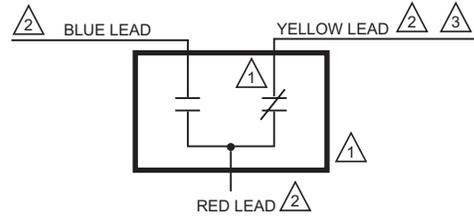

Fig. 9. Auxiliary switch schematic.
5. Refer to Fig. 6 through 8 for typical wiring, and Fig. 9 for internal auxiliary switch connections.
Motors with factory-added auxiliary switches are shipped in the closed position (fully counterclockwise, as viewed from the power end). Auxiliary cam default actuates the switches 30° from fully open with a 1° differential. With the motor in the closed (fully counterclockwise) position, the auxiliary switch breaks contacts R-B. See Fig. 9 (or the auxiliary switch Installation Instructions) for auxiliary switch wiring.